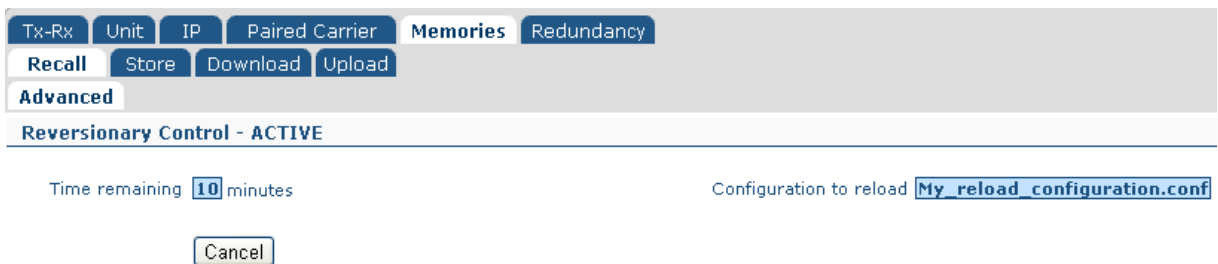

Figure 6-28 Reversionary Control Screen (Active state)
4. Click on the *Reload* button to start the timeout period, at which point the screen will change to that shown in **Figure 6-28**, which shows the remaining timeout period along with the name of the configuration memory that will be reloaded. In addition, the *Reload* button changes to a *Cancel* button.